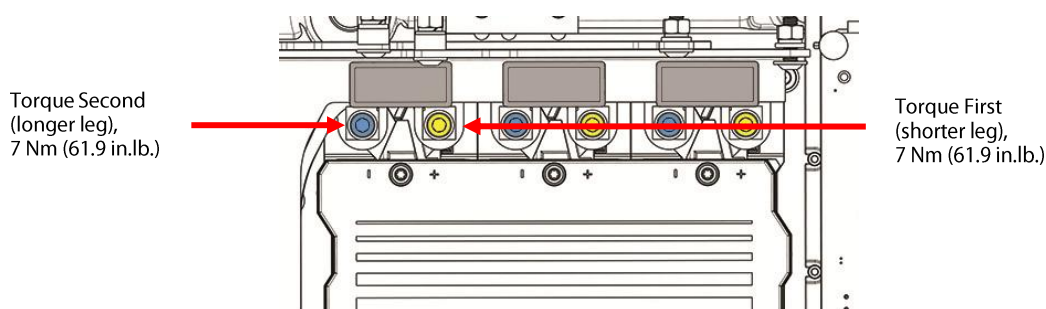

Figure 5 – Snubber Capacitor Torque Sequence
3. When installing the Snubber Capacitor, the fastener of the shorter leg should be torqued prior to the longer leg. Refer to Figure 5 – Snubber Capacitor Torque Sequence for this and the following step.